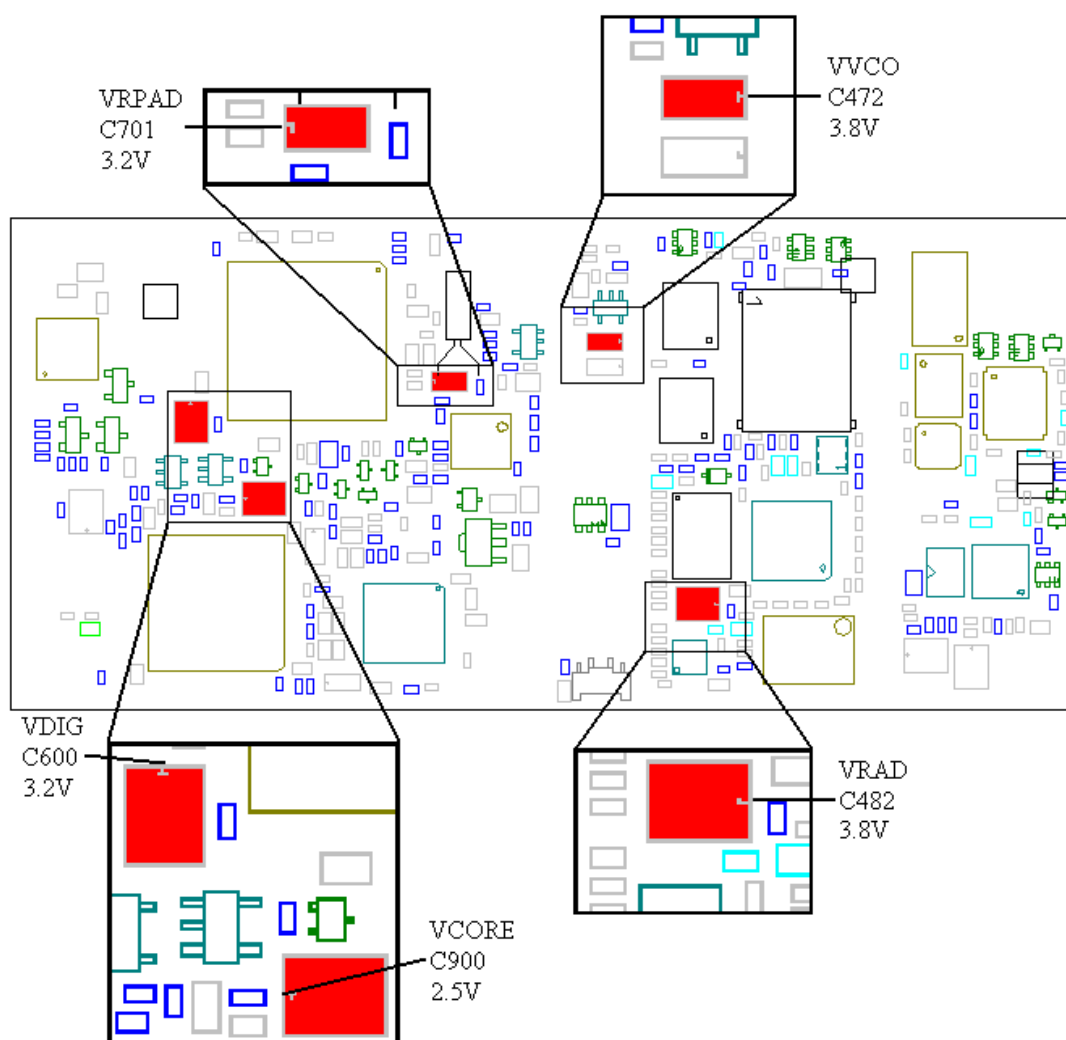

Fig. 3.3
Check the voltages VDIG, VCORE, VRAD, VVCO and VRPAD (fig. 3.3).
Check the VDIG (~3.2V) and VCORE (~2.5V, both in fig. 3.3) voltages.
- If the VDIG and VCORE voltages are correct, check the VRAD (~3.8V), VVCO (~3.8V), VRPAD (~3.2V, all in fig. 3.3) voltages.
Check the VDIG (~3.2V) and VCORE (~2.5V) voltages (fig. 3.3).